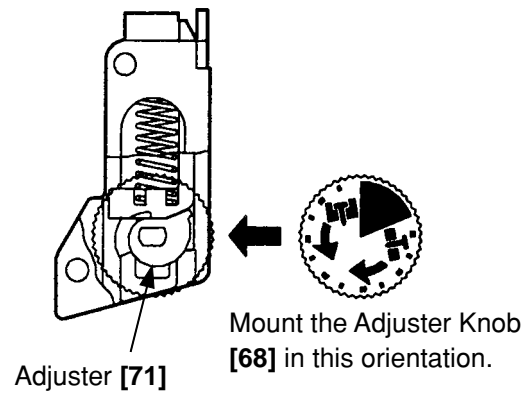

Fig. 20
- Mount the Adjuster [71] and the Adjuster Knob [68] as shown in Fig. 20.
- Apply the supplied oil (Hitachi pneumatic tool lubricant) to Pushing Lever (B) [70] and the Bolt Washer M4 [65] before reassembly.
- After reassembly, check that the Adjuster [71] and Pushing Lever (B) [70] operate smoothly.